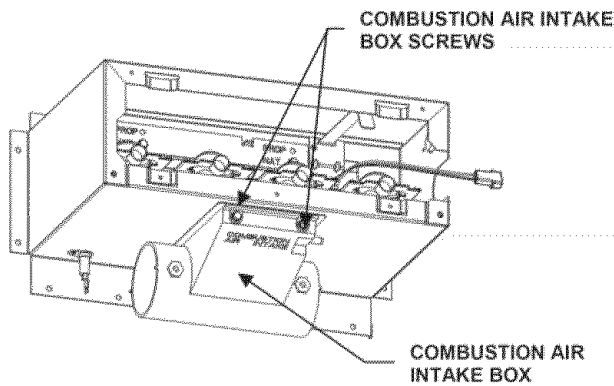

Fig. 5 - Removing Combustion Air Intake Box
- a. Remove front two screws on combustion air intake box. (See Fig. 5.)
- d. Reinstall combustion air intake box and replace two screws to ensure diverter plate is properly installed. (See Fig. 5.)